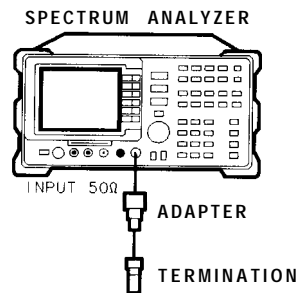

Figure 2-82. Residual Response **Test** Setup for Option 130
1. Connect the termination to the spectrum analyzer input as shown in Figure 2-82.
- Connect the 300 MHz CAL OUT to the RF INPUT as shown in Figure 2-82.
**[FREQUENCY] 300 [MHz] BAND LOCK ON OFF (ON)**
**[MKR FCTN] MK TRACK ON OFF (ON)**
- Reconnect the termination to the spectrum analyzer input as shown in Figure 2-82.